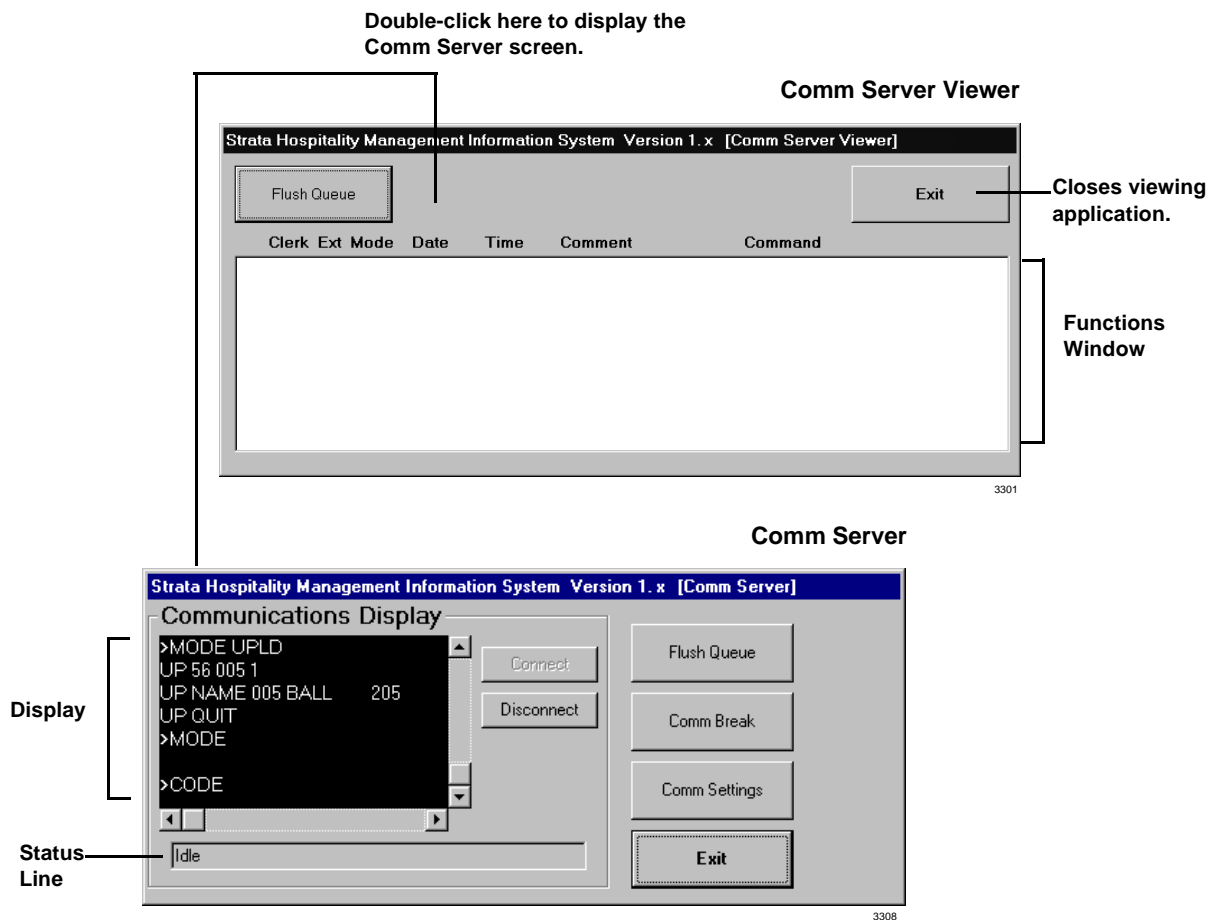

Figure 15-12 Comm Server Viewer/Comm Server Screens
These screens (see Figure 15-12) verify the following functions are working properly: check-in/check-out and the Enable DND, Disable DND, and Change Phone Service buttons on the Control/Status tab. See Table 15-2 on Page 15-16 for screen field descriptions.
- From the Comm Server Viewer screen, double-click the area to the right of Flush Queue (see Figure 15-12 on Page 15-15).